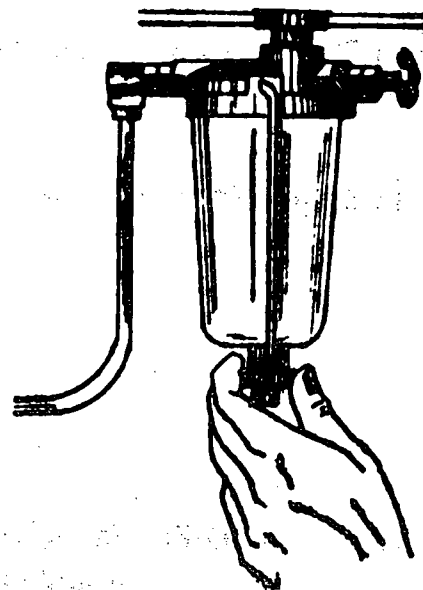

Fig. 9
- b) Remove the filter bowl (Fig. 9).